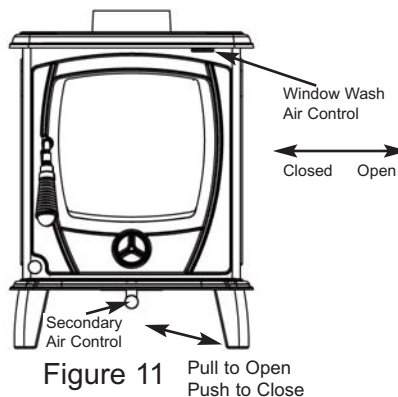

Figure 11 Pull to Open
3. Set the secondary air slider to the required position depending on the fuel being burned i.e. open when burning wood/coal and closed when burning anthracite (see Figure 11).
4. Open the window wash control by sliding it to the right (See Figure 11).